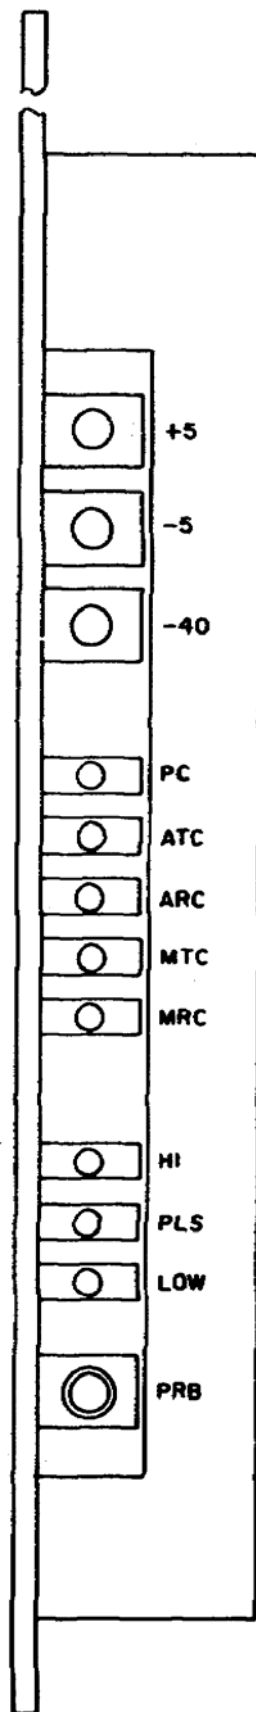

Figure 13. BITE Module (A13).
1. The BITE module, figure 13, contains LEDs which monitor AN/FCC-100(V) power supply and internal clock signals. The module also employs a plug-in probe and signal LEDs to find bad port, port carrier, aggregate, and aggregate carrier modules.